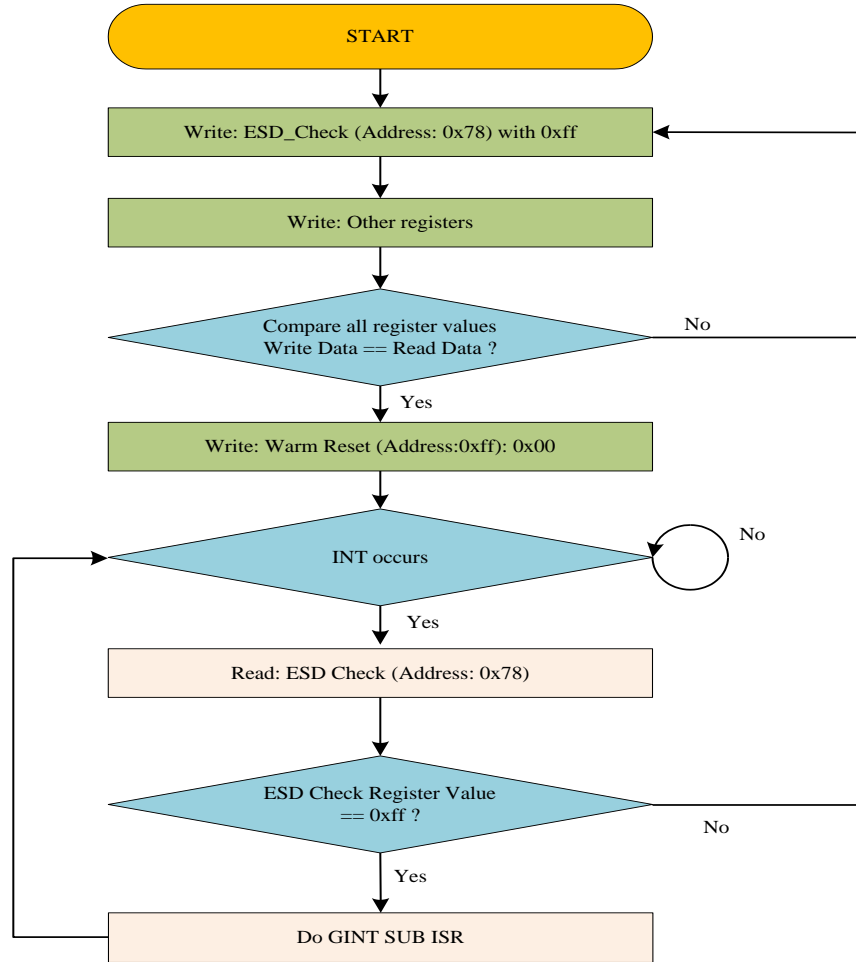

Figure 8-12: Flow Chart of GINT Service Routine
5. Give Warm Reset (0xff) to the ATA5009. Be sure that all interrupts generated before giving Warm Reset should be ignored by host MCU. The interrupts after giving Warm Reset should be handled normal and interrupt service routine must be performed as the flow chart below in the Figure 8-12.